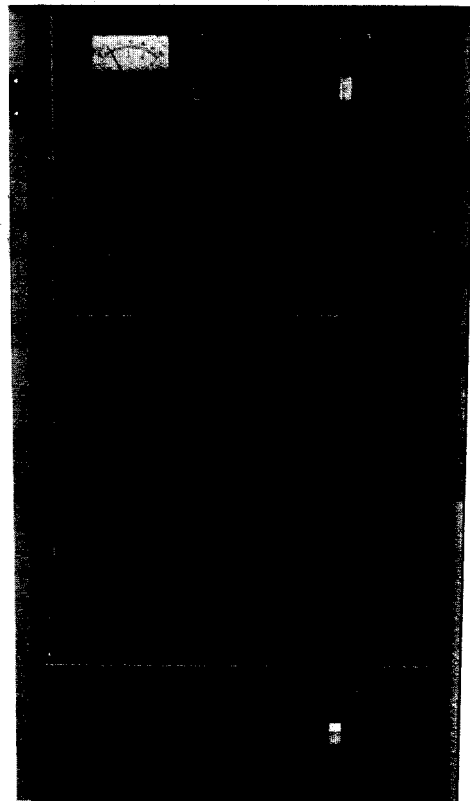

Figure 3 - Access to Wing Nut Holding Receiver Frame
1. Remove the wing nut (B) on the Radio Housing Front Door. Refer to Figure 3.